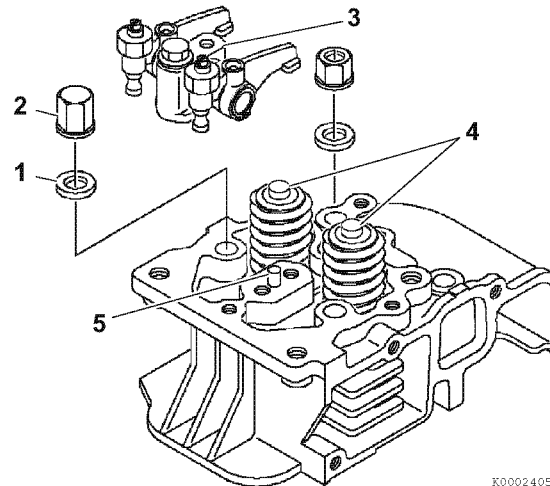

Figure 6-23
*Note: Install the cap nuts (2, **Figure 6-23**) on the studs that will be covered by the rocker arm cover.*
- Lightly oil the threads of the cylinder head studs. Install the washers (1, **Figure 6-23**) and nuts. Tighten to the specified torque in two steps as shown in the chart below. Tighten in an "X" pattern. *See Special Torque Specifications on page 6-17 for torque values.*
7. Place the valve caps (4, **Figure 6-23**) on the valve stem tips.
8. Install the rocker arm shaft assembly (3, **Figure 6-23**). Be sure the alignment pin (5, **Figure 6-23**) is in place.